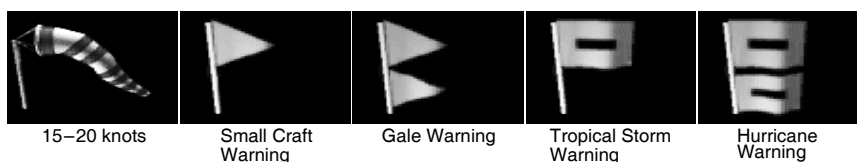

Figure 21. Wind-speed icons
5. This box displays the wind-speed icon that relates to the actual wind speed. The icon will change as the wind speed increases or decreases. A wind sock indicates a wind speed of 0 to 20 knots, while a flag indicates higher wind (see Figure 21).